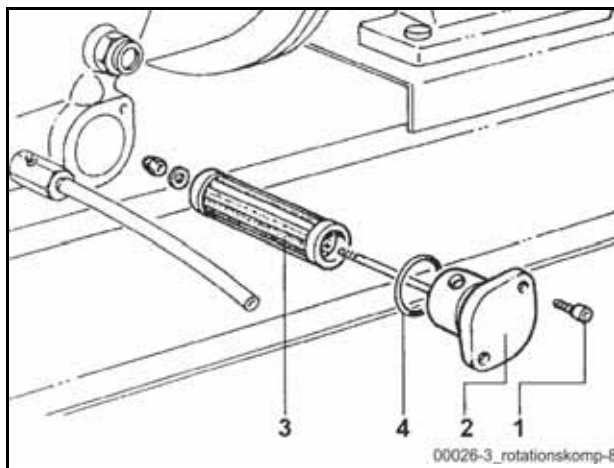

Fig. 354 Oil filter
- Loosen the screws **(1)** on the filter cover **(2)** (**Fig. 354**).